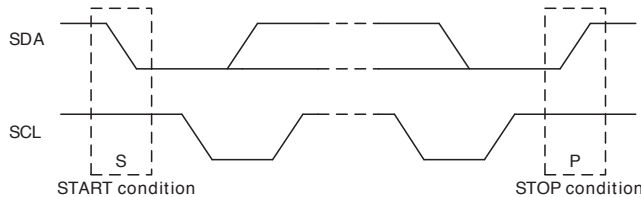

Figure 137:
START and STOP conditions are used to initiate and stop transactions on the I²C-bus. All transactions on the bus begin with a START condition (S) and end with a STOP condition (P). As shown in Figure 137, a START condition is generated by pulling the SDA line low while SCL is high, and a STOP condition is generated by pulling the SDA line high while SCL is high.